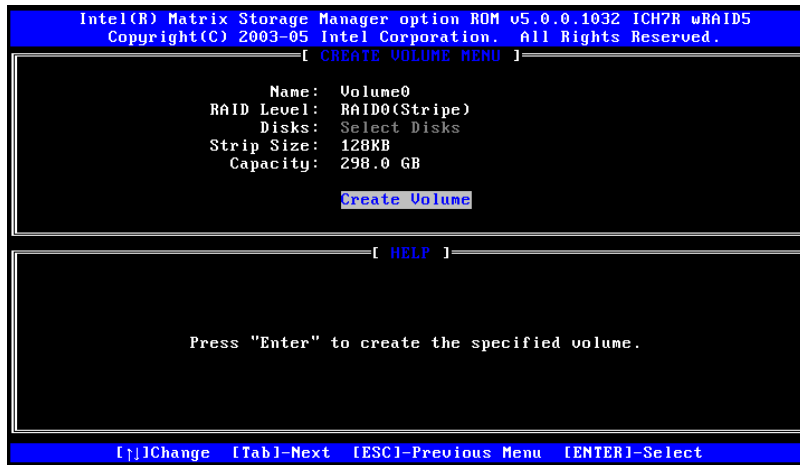

Figure E-6: Create the RAID Volume
Step 6: Create the RAID Volume. Press **ENTER** to create the RAID volume as specified. See **Figure E-6**.